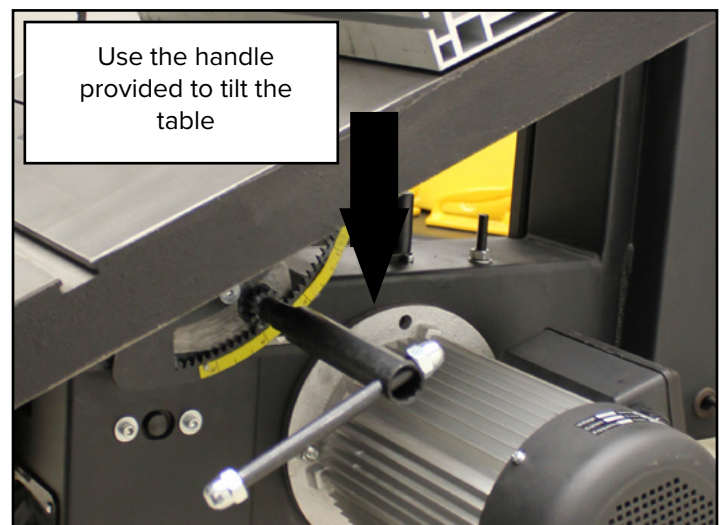

Figure 10: Table Tilt Stop Adjustment.
- Install the Table Tilting Wrench Fig.10 onto the Gear Shaft Fig. 10.